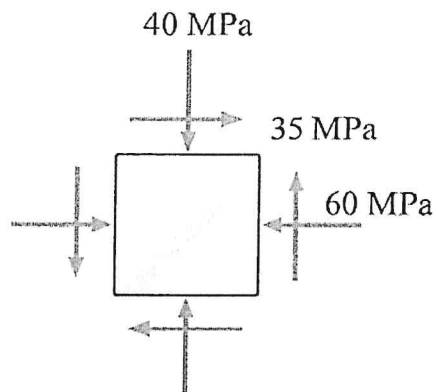

Figure 6: Plane State of Stress
*Refer Below - Figure6 : Plane State of Stress .*